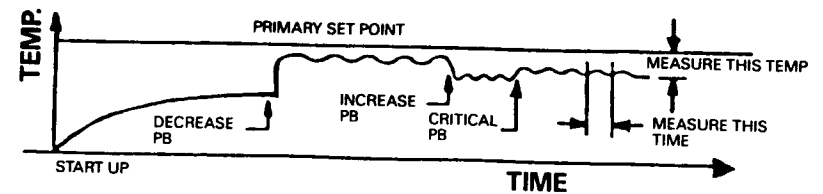

Figure 4-4. Oscillation Time
- Measure the oscillation time, in minutes, between neighboring peaks or valleys (see Figure 4-4). This is most easily accomplished with a chart recorder, but a measurement can be read at 1 minute intervals to obtain the timing.